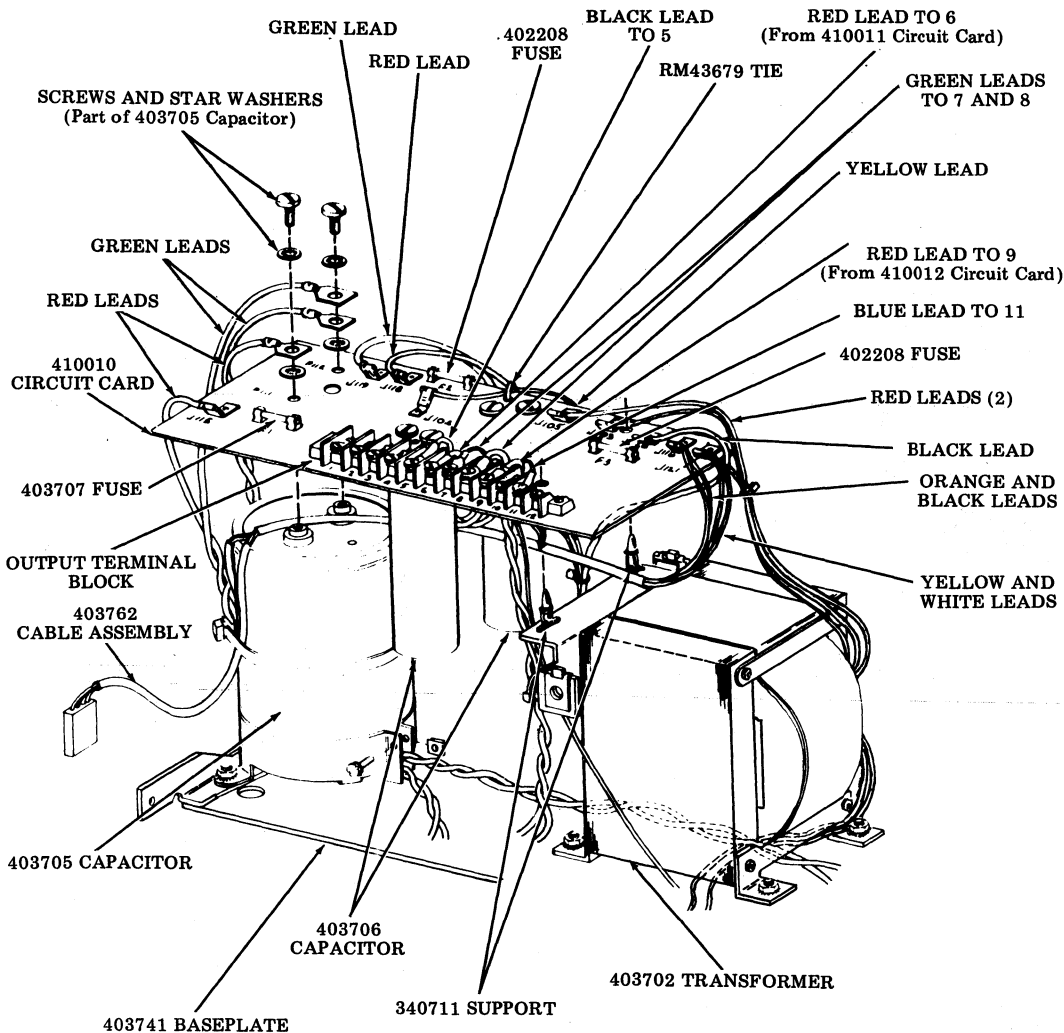

Fig. 32
- 3.03 To remove 410010 ac/dc circuit card (Fig. 32):
(b) Make sure all leads to 410010 circuit card are twisted as shown in Fig. 32.